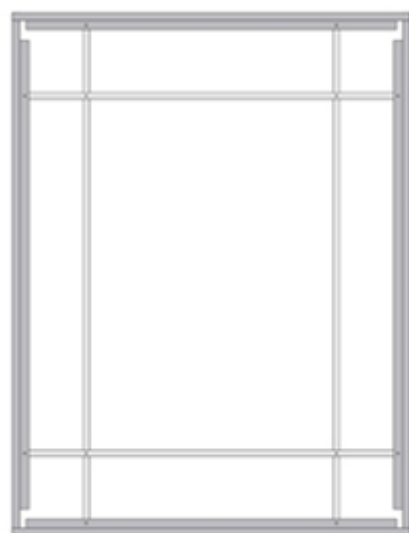

Figure 3
7. Attach the bed frame to the base frame by setting the bed frame on top. Then connect them by inserting 8 large flat-head Allen screws. (Figure 3)